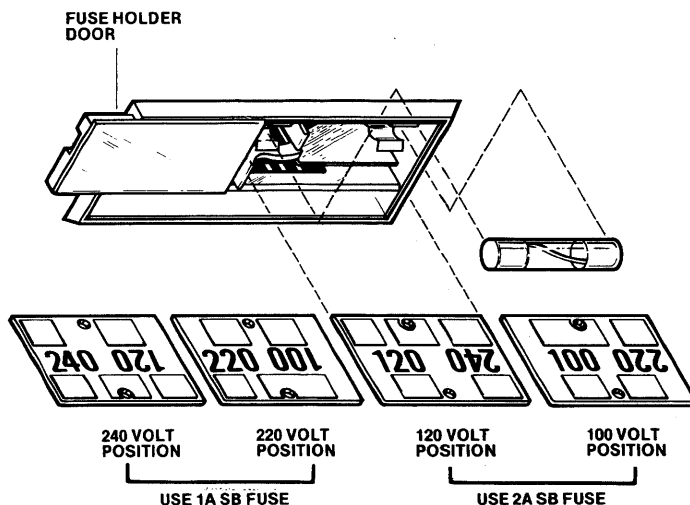

Figure 5-14. Diskette Drive Voltage Switching Card and Fuse
- e. Check voltage stickers on disk drive; voltage must match your available commercial power. On rear panel of dual drive, disconnect power cord (if connected) and slide fuse holder door on main power socket to left. (Refer to figure 5-14.) Remove voltage switching card and reinstall it in position corresponding to your available commercial power. Verify that proper fuse is installed: 2A slow-blow fuse for 110V or 120V; 1A slow-blow fuse for 220V or 240V. Close fuse holder door and install power cord.